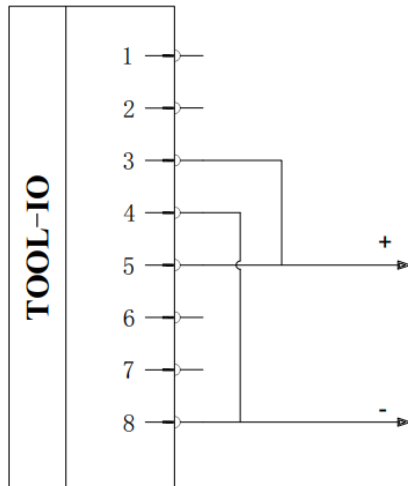

Figure 2-34 : Dual pin mode 1 connection
2) Wiring method: as shown in **Figure 2-34** below, connect the power cable (5 gray) with TI3/TO3/PWR2 cable (3 green), and the grounding cable (8 red) with TI2/TO2/GND2 cable (4 yellow).